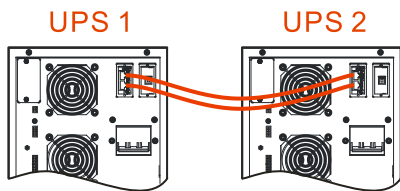
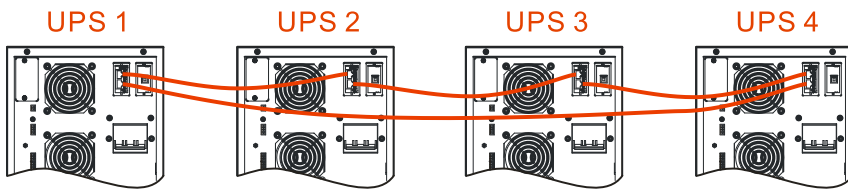

Figure3-30 Double parallel wiring diagram
Figure3-31 Four parallel wiring diagram
Step 3 Connect the parallel port of each UPS in parallel by parallel wires, as shown in Figure3-30 and Figure3-31.